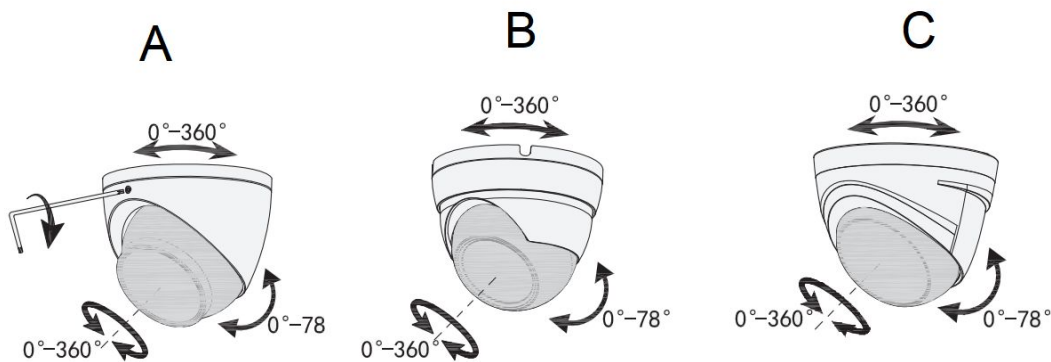

Figure 2-6
Step 6 Some models feature a set screw to secure the camera assembly. Loosen the screw to allow movement of the camera body. Tighten screw when the camera is set to proper angle. See Figure 2-6 for examples.